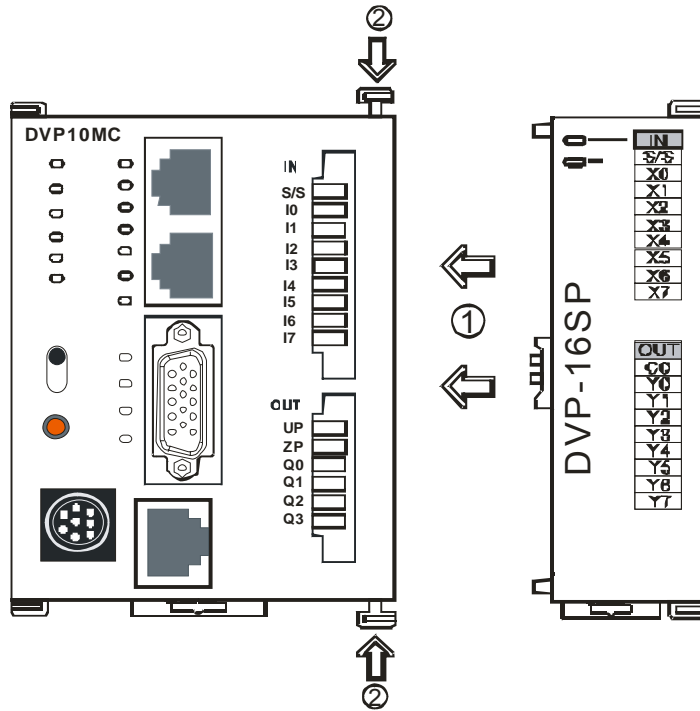

Figure 3.2.10
- Open the extension module clips on the top right and bottom right of DVP10MC11T and install DVP16SP11T along four mounting holes in the four angles of DVP10MC11T as figure 3.2.10.